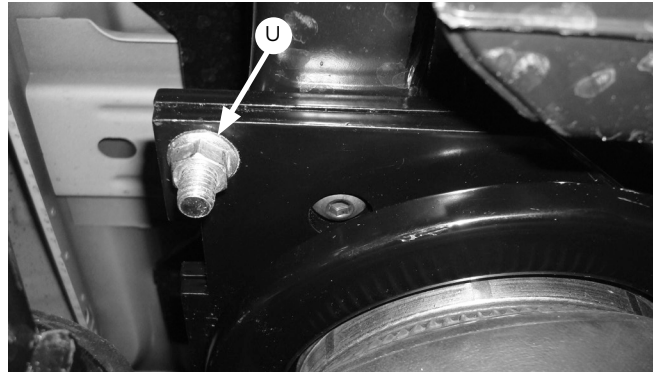

Fig. 35
4. Before proceeding, ensure the 90-degree fittings are pointing inboard toward the center of the vehicle. While raising the axle or lowering the body of the vehicle, align the previously installed upper frame bracket carriage bolts (including the one on the air spring bracket) with the air spring bracket/frame brace holes so the carriage bolts protrude. Cap all the carriage bolts with the 3/8" Serrated flange lock nuts (U) (Fig. 35). Snug the bolts down first, then torque to 31 lb.-ft. (42Nm).